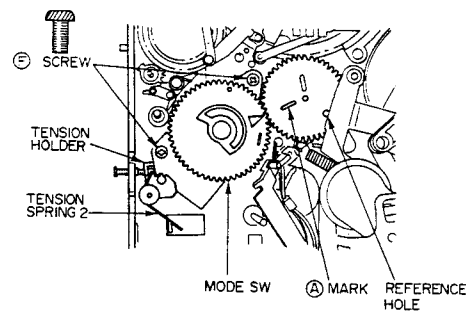

Fig.3-38
13. When installing the MODE SWITCH, align the MODE SWITCH's ▷ mark with the Ⓐ mark on the CAM-M, and the CAM-M's reference hole should be aligned with its reference hole on the chassis as shown in Fig.3-38.